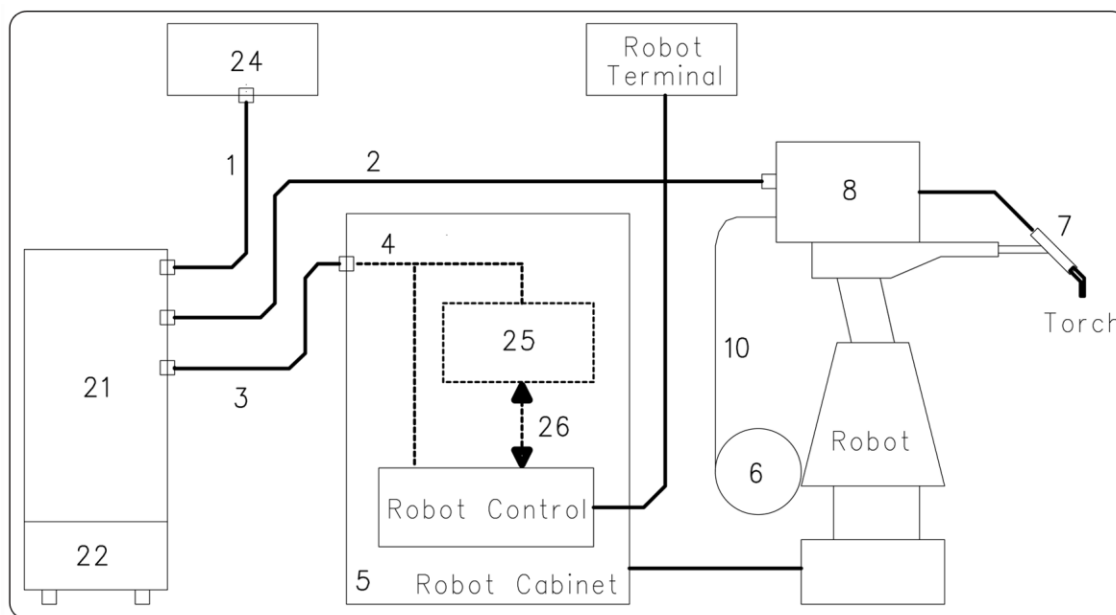

fig. 2
It comprises a Power Source, eventually equipped with Cooling Unit, a Wire Feeder a Control Panel and, if necessary, a Robot Interface (see fig. 2).
NOTE: If the Robot Control (fig. 2) has the CANopen communication line type, the interface (25) and the cable (26) are not necessary.
3.1 Installation (fig. 2).